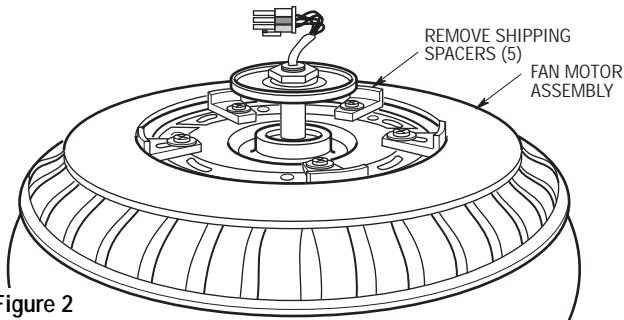

Figure 2
**NOTE: Remove and discard the five shipping spacers and screws from the motor hub (Figure 2).**